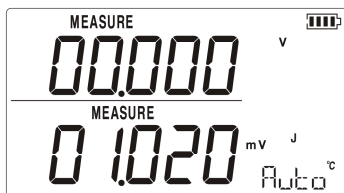

Figure 5.1-3
4. Press RANGE to display the DC mV value reading as shown in Figure 5.1-3. The DC mV value continue to display for 3s and then automatically return to the original display.